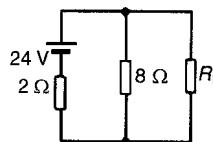

Figure 13.86
- Determine the value of the load resistance R_L shown in Fig. 13.86 that gives maximum power dissipation and find the value of the power. [$R_L = 1.6\Omega$, $P = 57.6 \text{ W}$]